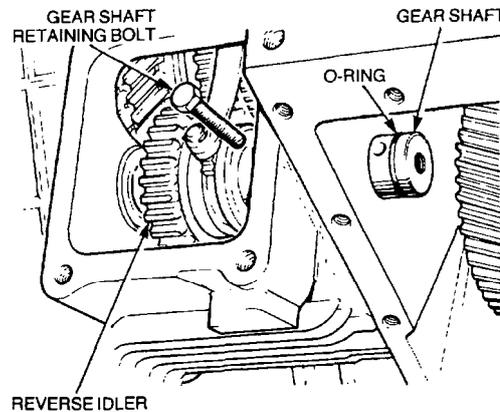

Figure 156 Removing the Reverse Idler Gear and Shaft
- u. Remove the bolt retaining the reverse idler gear shaft in the transmission casing (Figure 156).